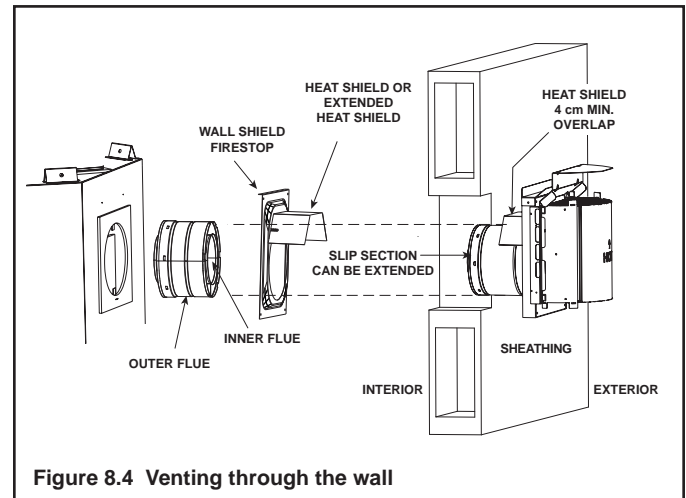

Figure 8.4 Venting through the wall
- **DO NOT** remove the heat shields attached to the wall shield firestop and the horizontal termination cap (shown in Figure 8.4).
There are two sections of the heat shield. One section is factory-attached to the wall shield firestop. The other section is factory-attached to the cap. See Figure 8.4.